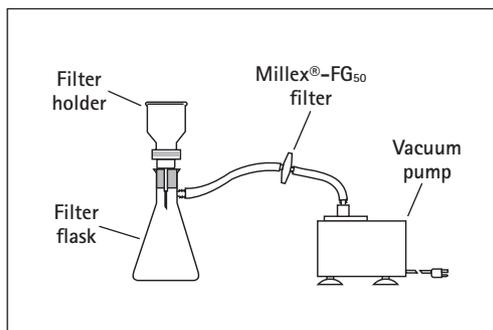
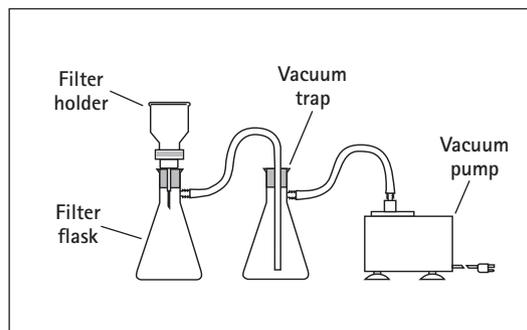

Figure 1. Millex®-FG50 filter pump protection
Figure 2. Vacuum trap pump protection
**CAUTION:** Always use the supplied Millex®-FG50 filter or a vacuum-flask water trap in conjunction with the pump, as indicated in Figures 1 and 2. Use this pump to pump air or gas only, not liquids or particulates.
2. To prevent liquids or vapors from entering the pump when applying vacuum, install the Millex®-FG50 filter in-line between the filter flask and pump (Figure 1). Alternatively, the pump can be protected by a flask vacuum trap consisting of a 1 liter filtering flask (cat. no. XX1004705), No. 8 stopper (cat. no. XX2004718) and silicone tubing (Figure 2). When using the flask vacuum trap, it is not necessary to use the Millex® filter. For best results, keep the tubing between the pump and equipment as short as possible. Additional tubing is available as cat. no. XX7100004.